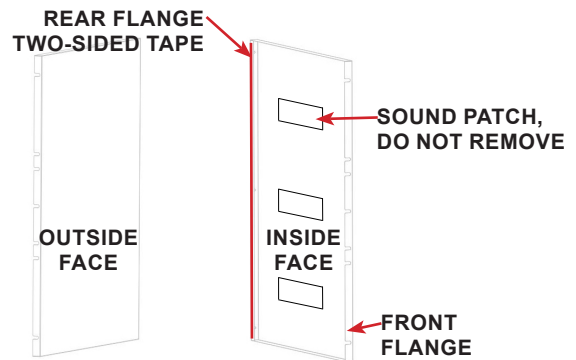

FIGURE 2.56 - End Panel Tape
**STEP 5:** Remove two-sided tape paper strip to expose the adhesive side of the tape. See FIGURE 2.56